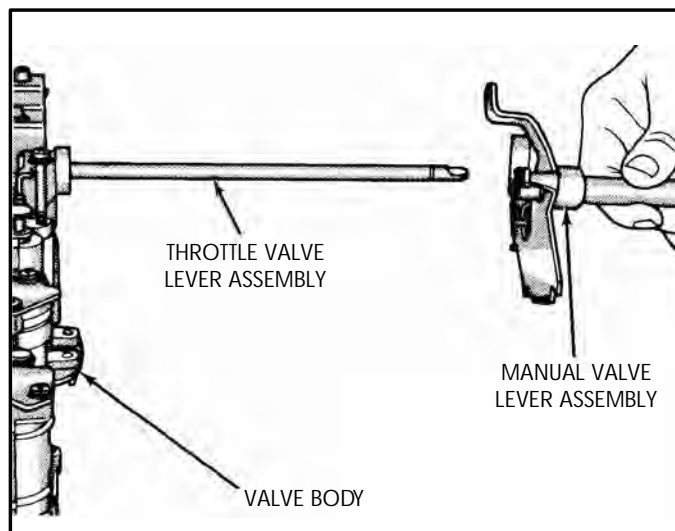

Figure 98
8. Remove the manual valve lever assembly and throttle valve lever assembly (See Figure 98).
17. Install the throttle valve lever assembly and the manual valve lever assembly, using Figure 98 as a reference.